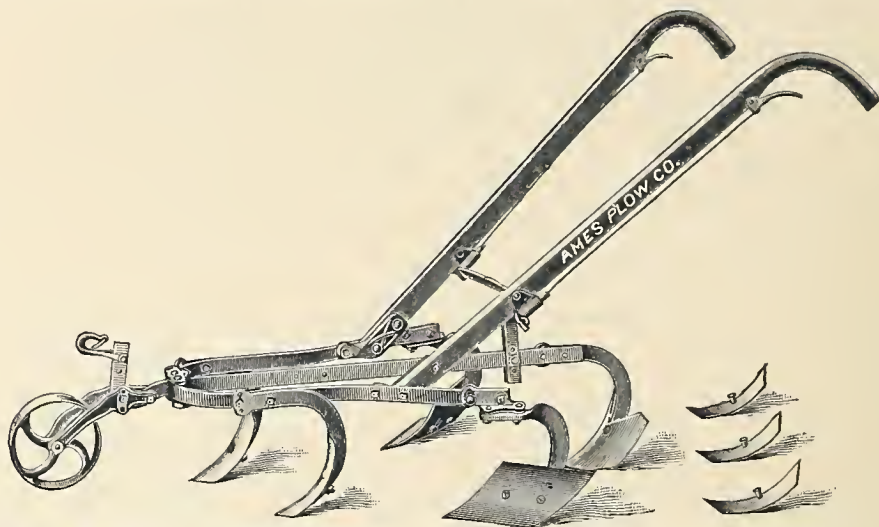

Fig. B 618.—New Universal Horse Hoe and Cultivator.
*The Ames Steel Frame Horse Hoe and Cultivator*, presented at *Fig. B 612*, with five Cultivator Teeth, is the most popular cultivating implement of the day. It is recommended for close work among all growing crops. The Horse Hoe attachments consist of a pair of side hoe teeth and a rear hoe tooth as shown in position in *Fig. B 618*. The side hoe teeth, which are adjustable to any position desired, turn the earth up against the plants or can be reversed to turn the soil away
*The New Universal Horse Hoe and Cultivator*, shown at *Fig. B 618*, is in working qualities practically the same as the Ames described above; but as the lever expanding adjustment is an improvement over former devices, we now offer a marked improvement over the lever. Where a lever is used the adjustment is accomplished at the same time and equally on both sides. With the New Universal the